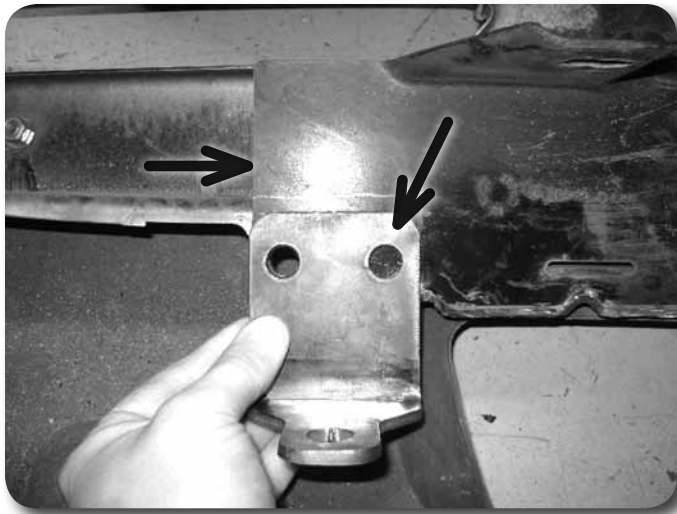

Figure 21
44. Locate a new front bumper bracket. Line the inner mounting hole of the new bracket with the lower inside factory hole where the bolt/nut tab was removed. Also, align the vertical edge of the new bracket with the vertical edge of the factory bracket. Mark the second bracket mounting hole to be drilled. **Figure 21**